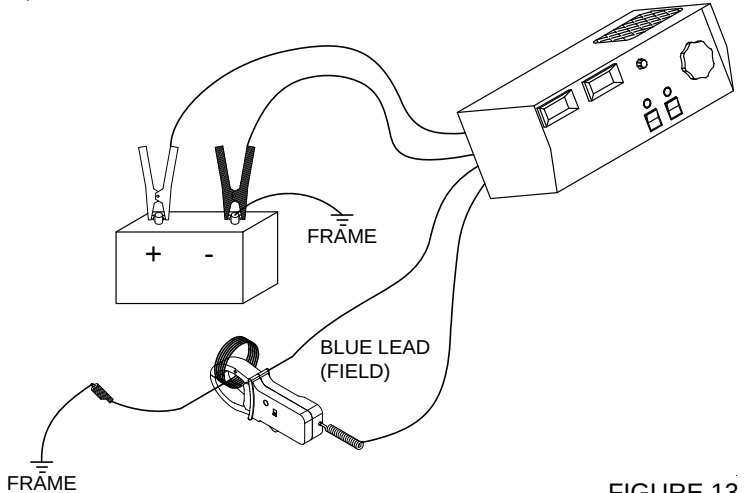

FIGURE 13
2) Attach unit as shown (See figure 13).